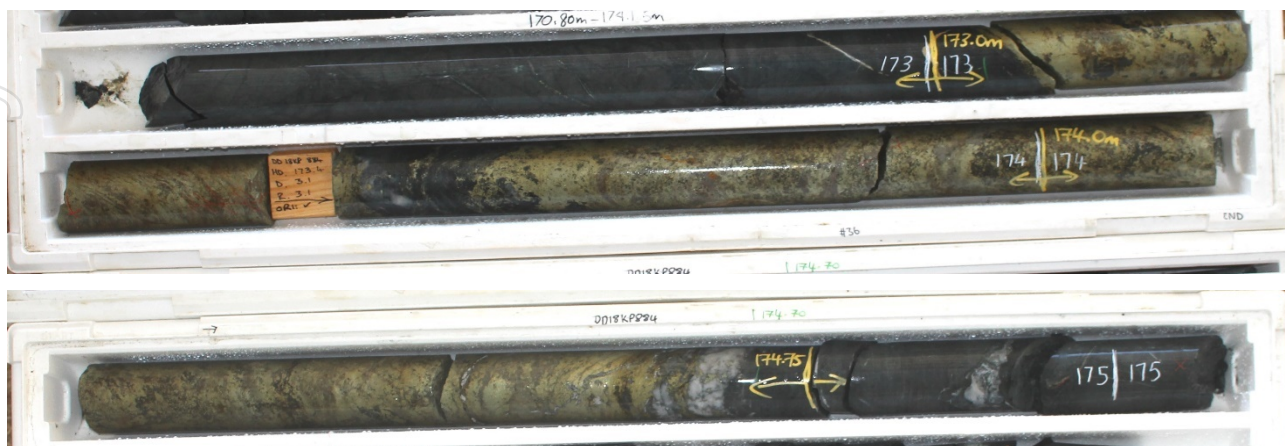

Figure 3: DD18KP884 at Harbour View South. Reported intercept commencing at 173.0m down hole.
- **1.75m @ 4.08 g/t Au, 17.94% Cu, 40.4 g/t Ag** from 173.0m (DD18KP884) – (Figure 3)